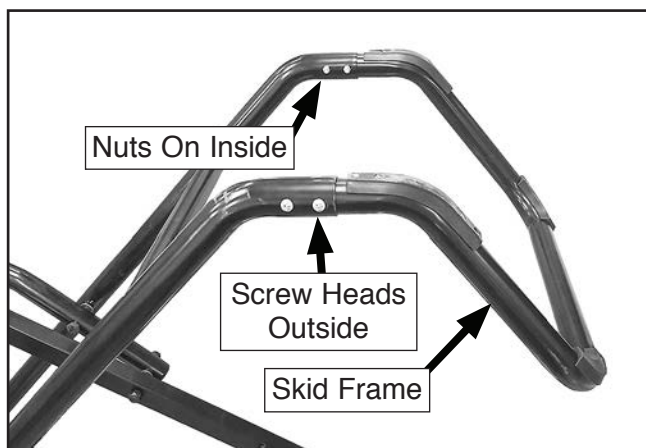

Figure 10. Skid frame installed.
9. Locate and lay-out skid frame, (4) M6-1 x 45 Phillips head screws, and (4) M6-1 lock nuts.
10. Attach skid frame as shown in **Figure 10**, and make sure to install screws with nuts on inside of stand and screw heads on outside of stand.